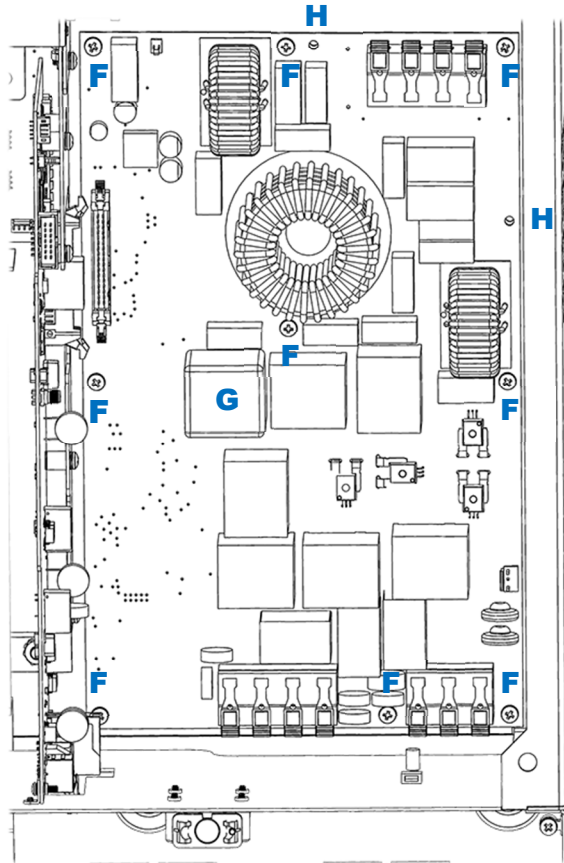

Figure 45 Dismounting AC Board
4. Using a #2 Phillips screwdriver, remove 9 machine screws **F** that secure the AC board in place. See Figure 45.